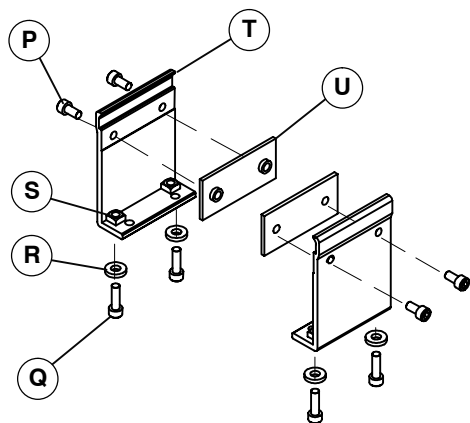

Figure 8
1. Typical mounting bracket components (Figure 8)
2. Attach clamp plate (U of Figure 8) to stand mounting bracket (T) with two screws (P). Do not tighten screws.